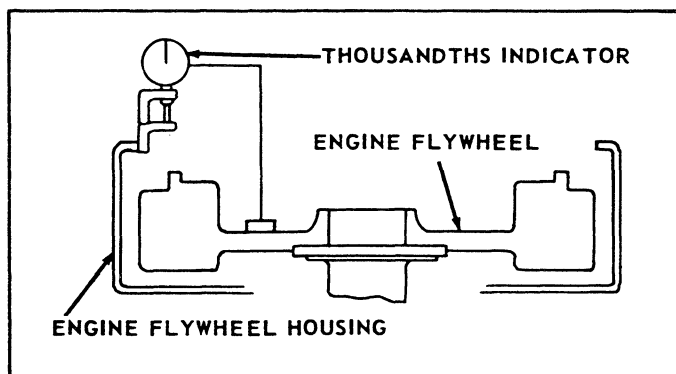

Figure 66. Checking the Bore of the Engine Flywheel Housing.
E. Checking Bore of Engine Flywheel Housing. With the indicator bolted as in Paragraph 56D above, adjust the indicator stem so that it will ride on the bore of the engine flywheel housing (Fig. 66). Rotate the engine flywheel and note the bore eccentricity of the engine flywheel housing bore. The bore eccentricity must not exceed .008 inch maximum total indicator reading.